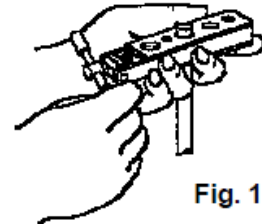

Fig. 1
4. Loosen clamping screw used for locking the sliding segments in the die holder. This will permit their separation. (See Fig. 1.)